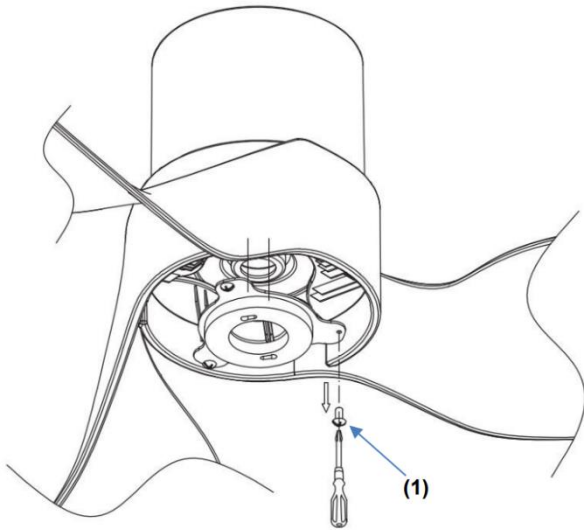
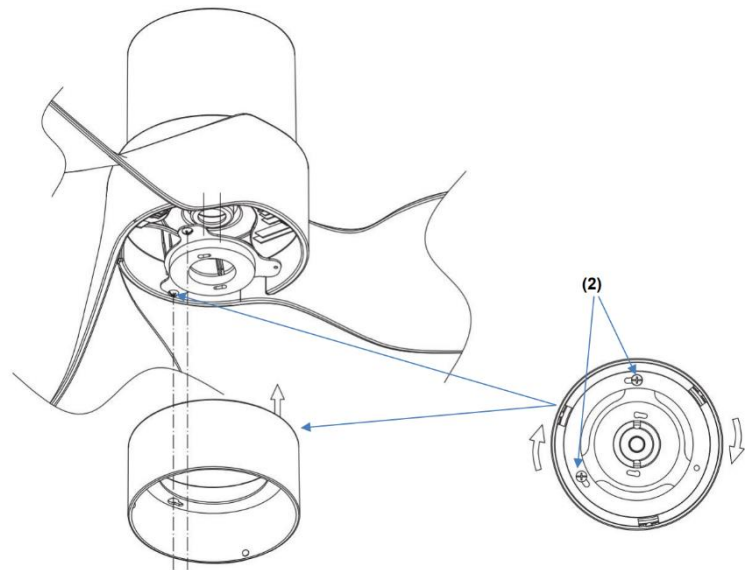

Fig. 8a
Fig. 8b
1. Loosen the screw (1) from the fan bracket. (Fig. 8a) Align the two slot screws with the keyhole slots (2) of the light housing. (Fig. 8b)
2. Turn the light housing counterclockwise until the slot screws are firmly at the end of the slots (2). (Fig. 8b)